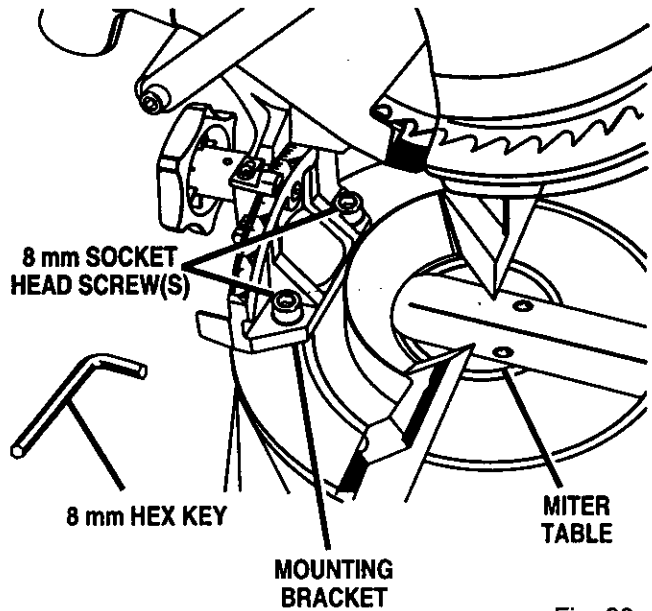

Fig. 20
- Using the 8 mm hex key (Allen wrench) provided, loosen the socket head screws that secure the mounting bracket to the miter table. See Figure 20.